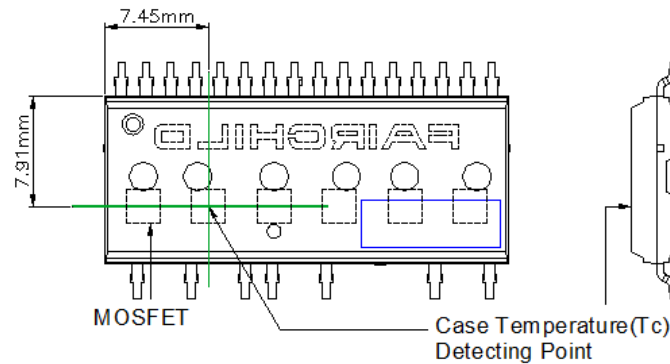

Figure 4. Case Temperature Measurement
- For the measurement point of case temperature T_C , please refer to Figure 4.